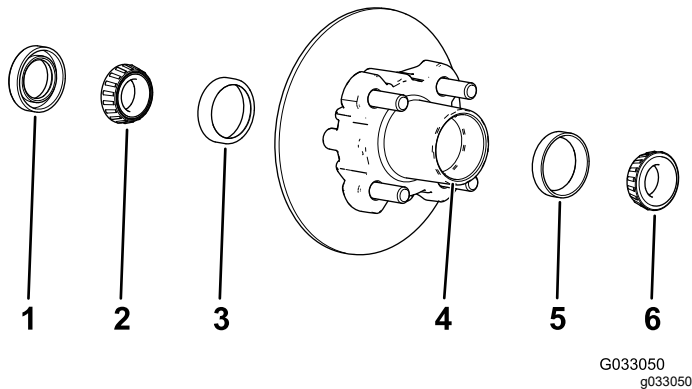

Figure 25
1. Remove the outboard bearing and bearing race from the hub (Figure 25).
2. Remove the seal, inboard bearing from the hub (Figure 25).
5. Clean the cavity of the hub of all grease, dirt, and debris (Figure 25).
7. Fill the cavity of hub 50 to 80% full of the specified grease (Figure 25).
8. Assemble the inboard bearing onto the race at the inboard side of the hub and install the seal (Figure 25).